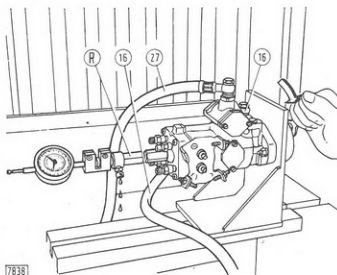

Fig. 63 - Checking Spill Cut-off
- Place the pump assembly on the test machine (see Fig. 63), fit the drive coupling to the shaft and connect calibration fluid line (16) to the pump inlet and return line (27) to the check valve connector.
- Fit tool No. **290774** (R) with attached dial gauge to the hydraulic head.